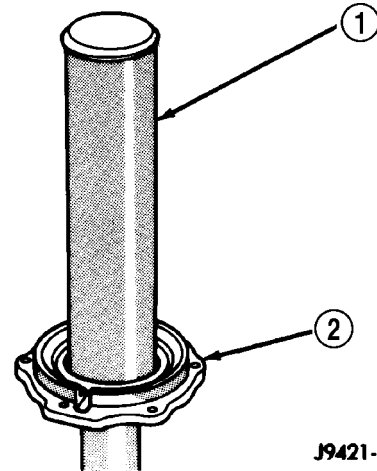

Fig. 124 OIL SEAL IN FRONT BEARING RETAINER
- (19) Install **new** oil seal in front bearing retainer with Installer 6448 (Fig. 124).